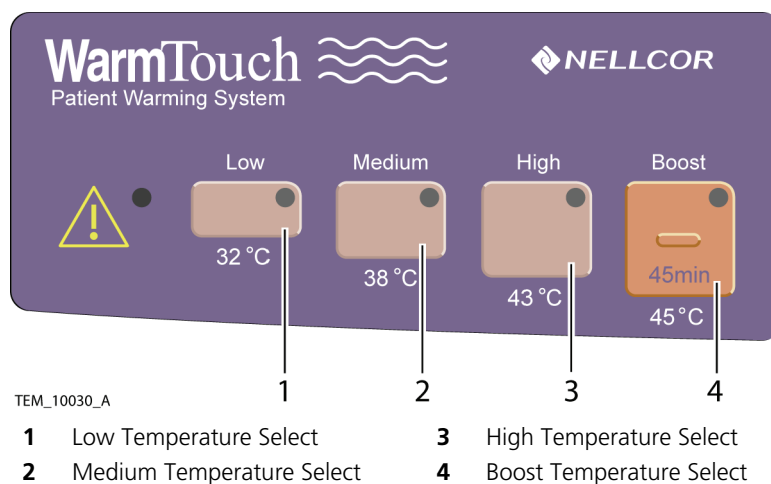

Figure 12. Temperature Selection
8. Select the Low temperature setting(Figure 12, item 1).
10. Select the Medium temperature setting (Figure 12, item 2).
12. Select the High temperature setting (Figure 12, item 3).
14. Select the Boost temperature setting (Figure 12, item 4).